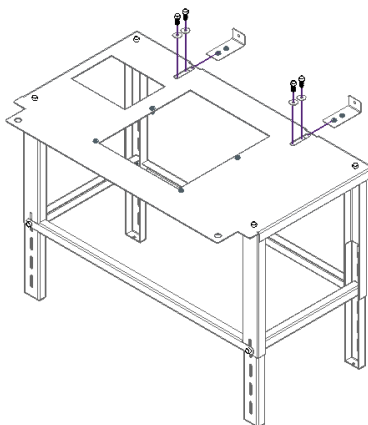

Figure 5 - Auxiliary table assembly
4. Place the two squares through the opening in the table and place a screw and washer in each. Do not tighten the screws completely, just enough to allow the squares to move, Figure 5.